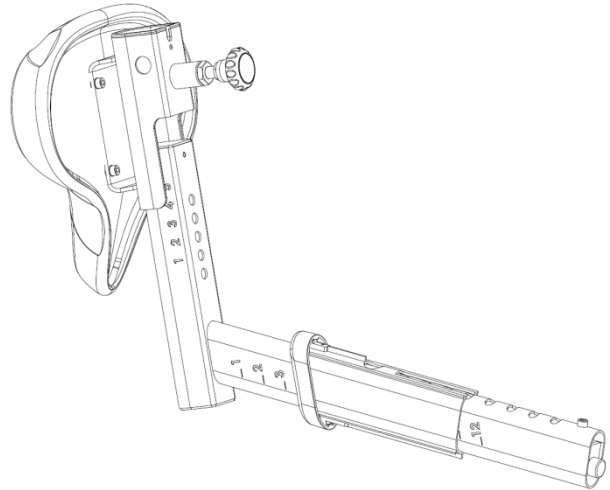

Fig. 17
16. Insert the pedal securing bolts into each pedal (Fig. 17) thru the back of each crank arm and torque each screw to its final value.